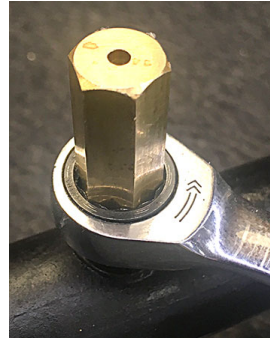

Figure 4
4. Remove the orifices (see Figure 4).